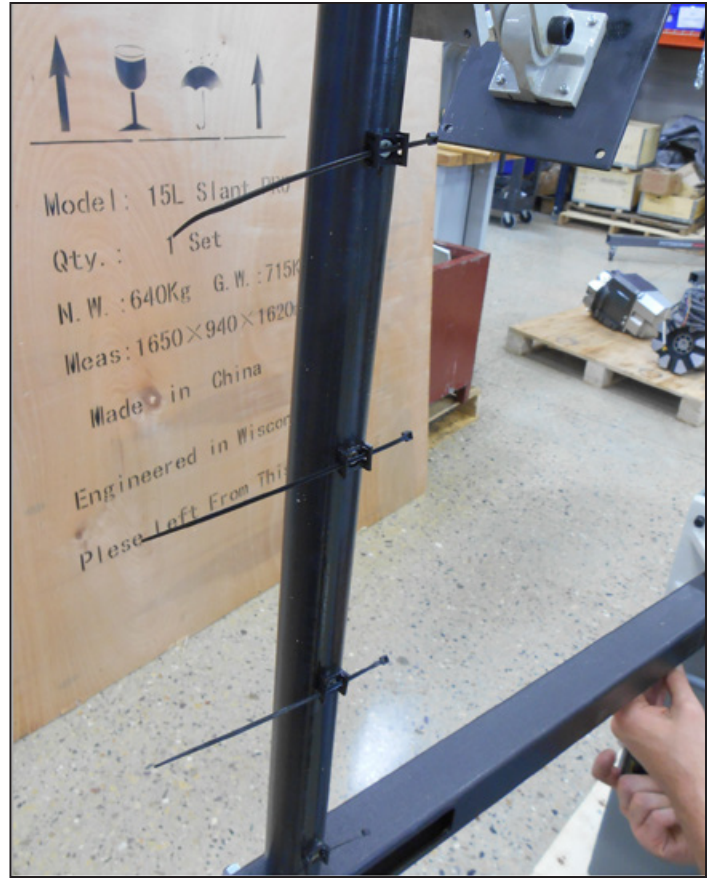

Figure 7
8. Use four 4mm flat head screws to attach four wire tie mounts to the round monitor post (see **Figure 7**).